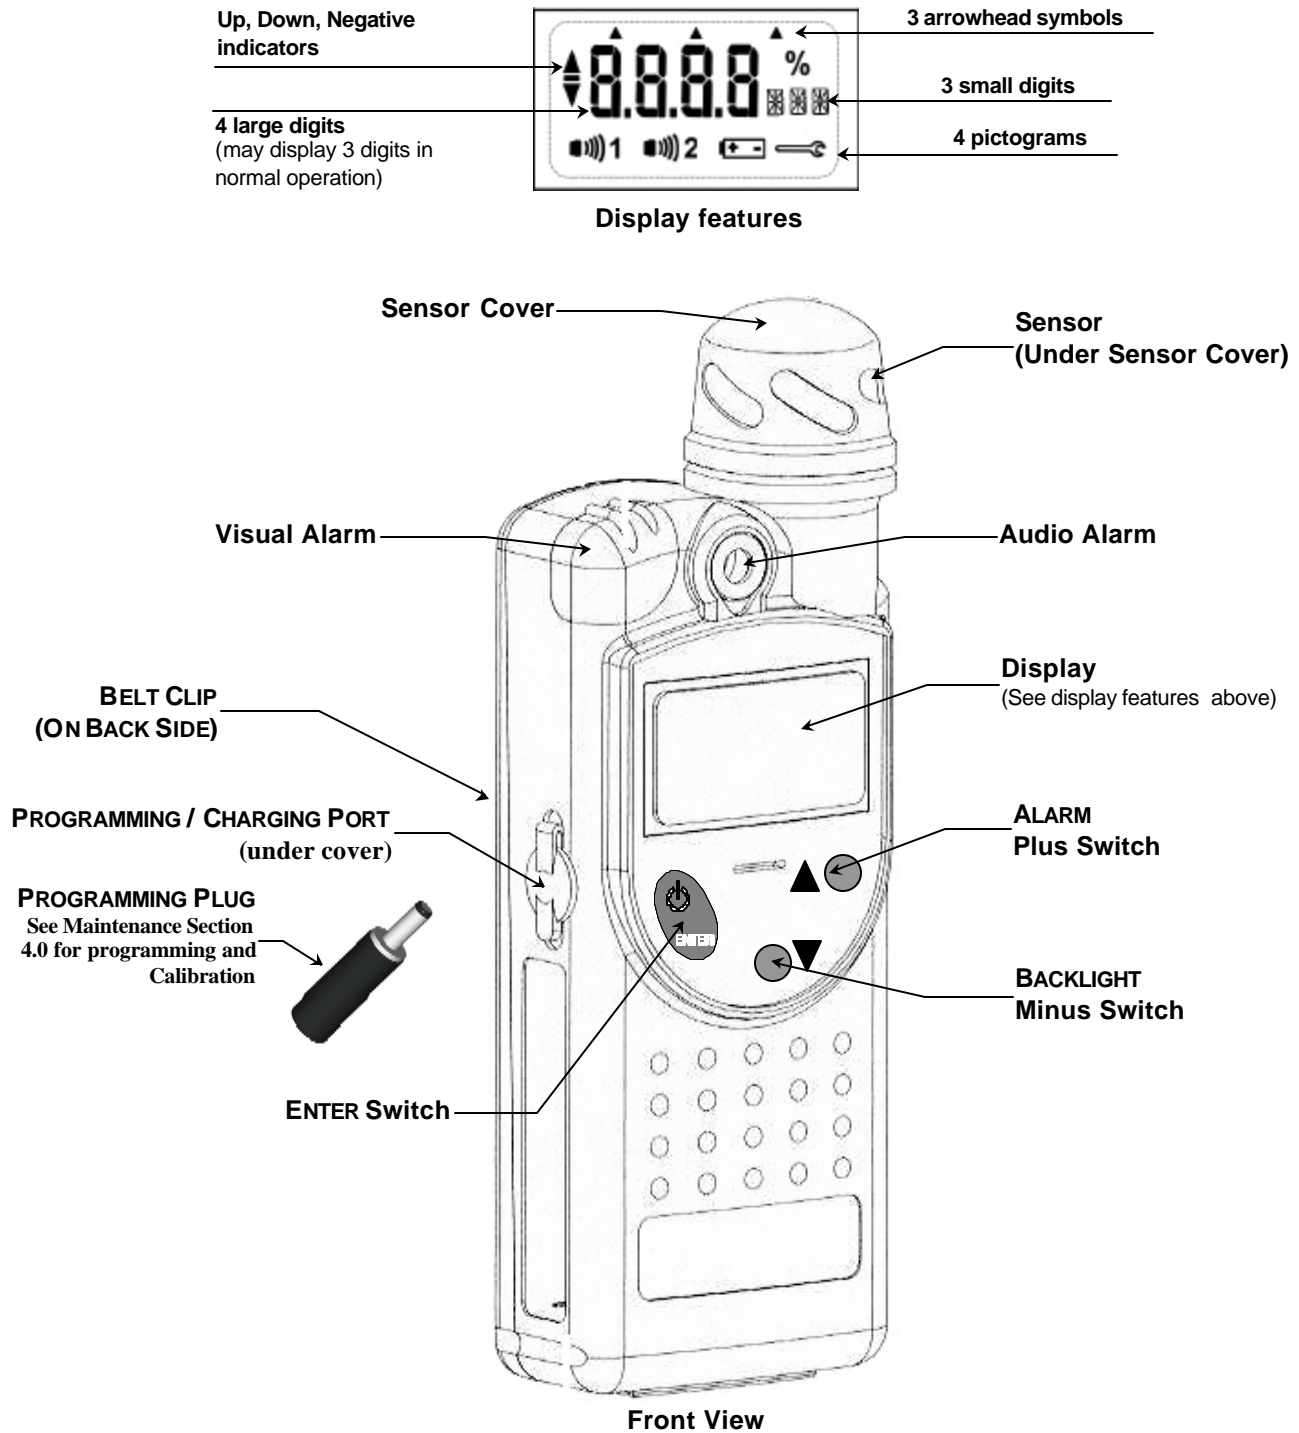

Figure 1: C-2000 Features
See figure 1 for location of features on the C-2000.
Refer to Figure 1 for location of the **C-2000** switches, alarms and display. While in operation the **C-2000** will regularly sound a chirp or “beep” to indicate the instrument is turned on and in normal operation with no faults detected. This confidence chirp is set at the factory and can not be altered or turned off.
1. Insert the programming plug into the programming/charge port on the side of the instrument, see Figure 1.